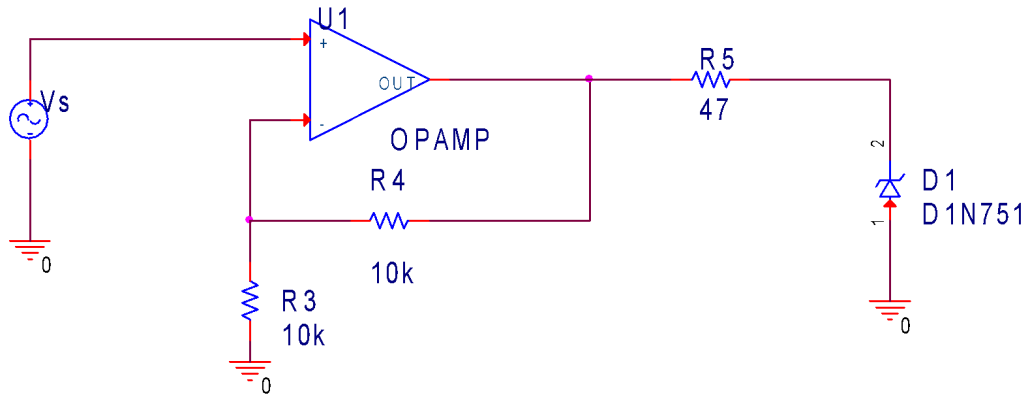

Figure 10: Experimental Zener diode circuit
4. Build the circuit below (Figure 10) using the LF351/353 op-amp. Set the source to a 8 Vpp (4 V amplitude), 100 Hz triangle wave (sawtooth-shaped wave). The non-inverting op-amp is implemented such that we can provide voltage signals to the load circuit in excess of the 5 V limit internal to the Discovery Board/Mobile Studio. Use a +15V/–15 V voltage to power the op-amp.